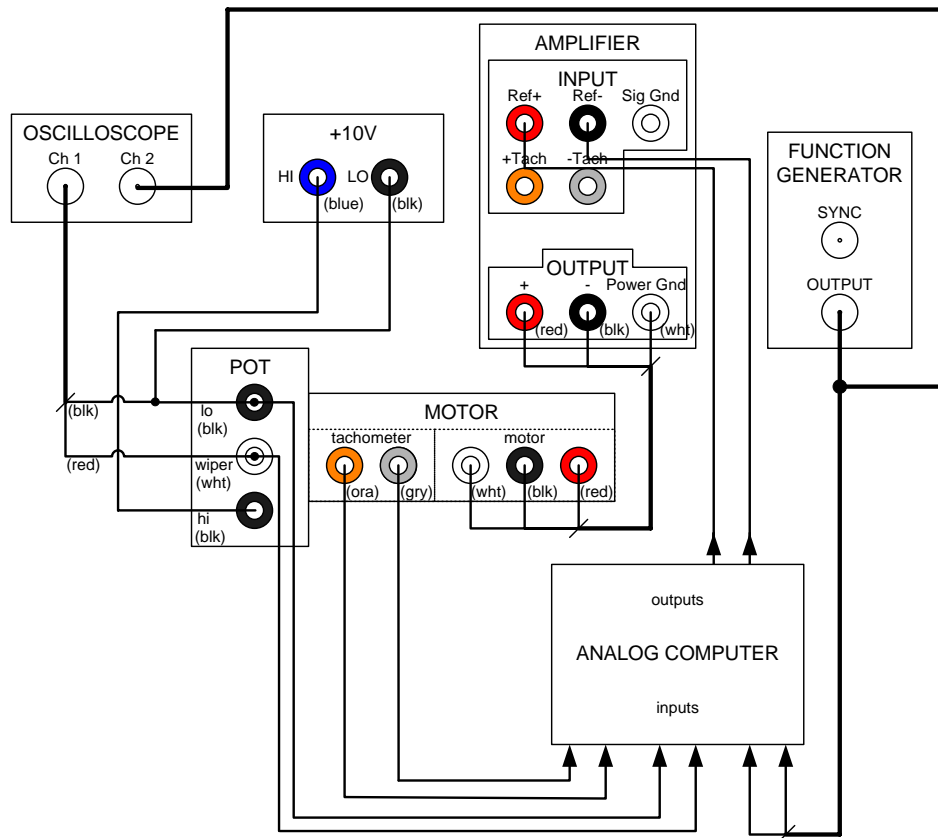

Figure 5.4: Wiring diagram for Part I.
3. Use the wiring diagram (Figure 5.4) to connect the analog computer to the other components.